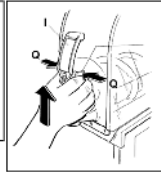

Fig. 3
- Simultaneously apply pressure to the two securing tabs (Q), and lift the dispensing tap (I) to pull it out of its fixed position (see fig.3).